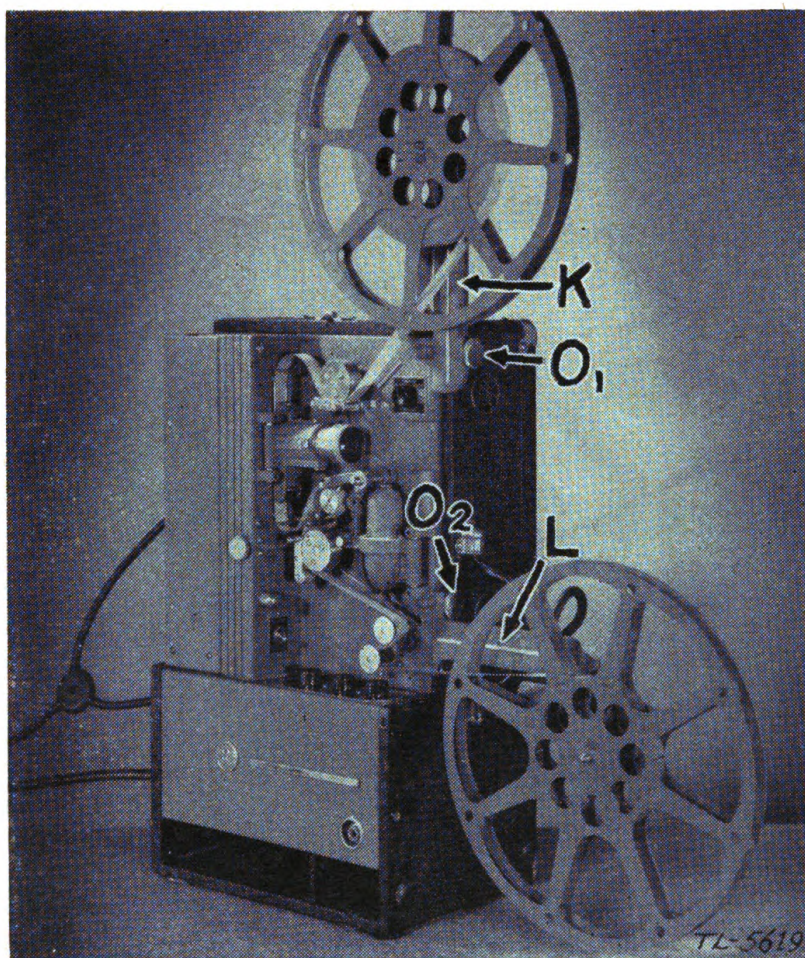

FIGURE 8.—R. C. A. projector ready for operation.
- (4) *R. C. A.* (fig. 8).—(a) Remove projector case cover.